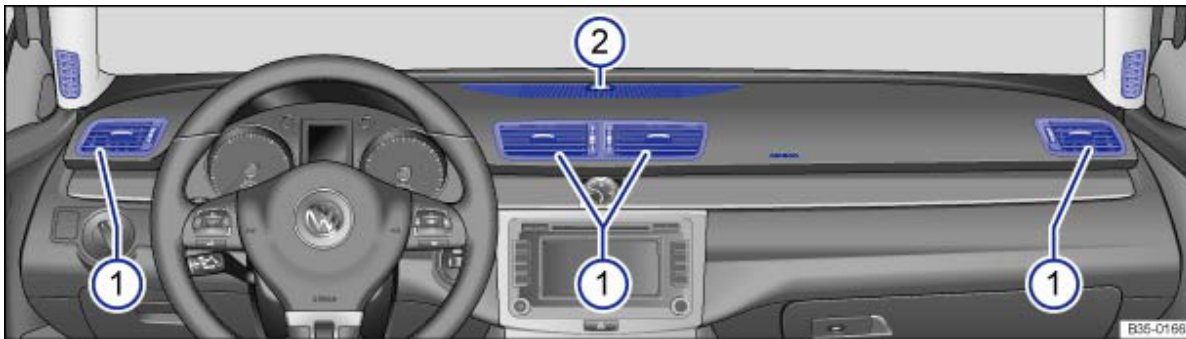

Fig. 183 In the dash panel: vents
To ensure that the vehicle interior is sufficiently heated, ventilated and cooled, never fully close the vents → Fig. 183 ① .
Having the Climatronic on automatic mode also means that indirect ventilation is controlled, which ensures draught-free ventilation. The air will then flow over the non-closable outlet surface → Fig. 183 ② .